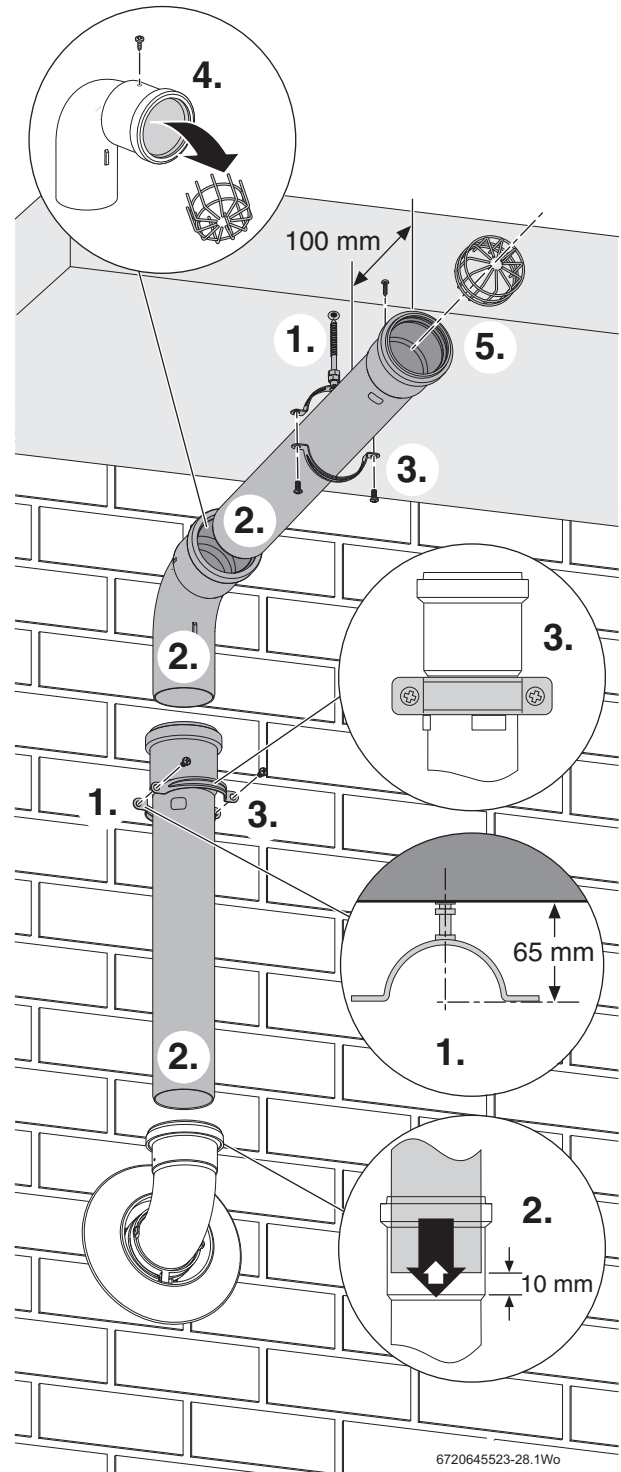

Fig. 48 Under balcony installation
1. Refer to figure 48 and mark the position for the wall clamp that coincides with the extension tube just below the top fitting. Drill a suitable hole and fit the wall plug. Screw the clamp into the wall plug as shown.